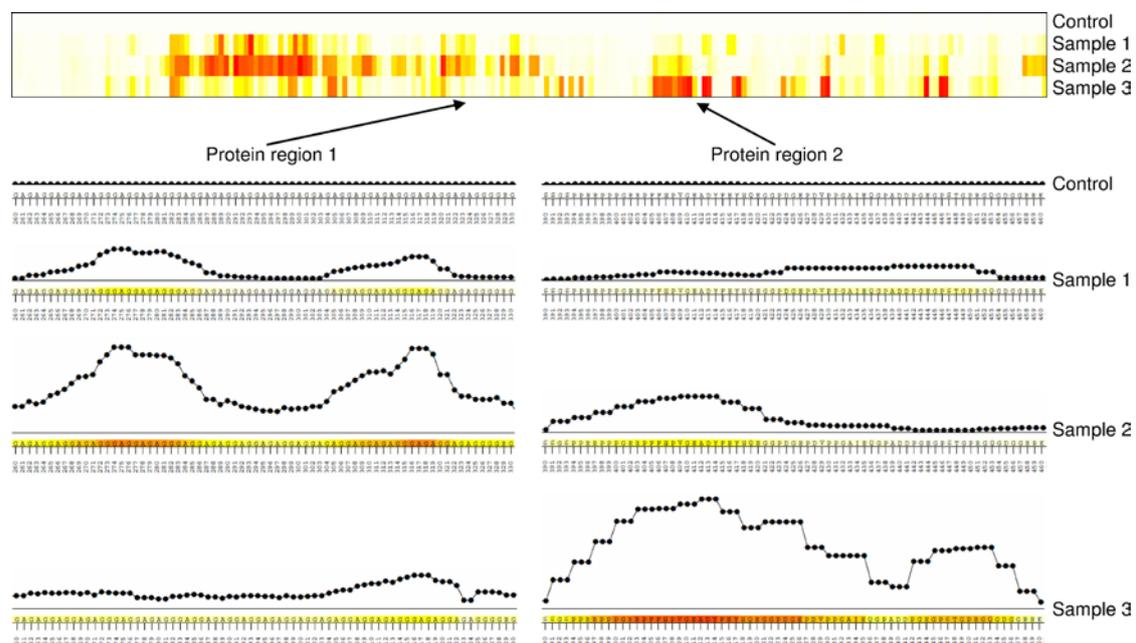

Figure 6: Visualization of microarray incubation experiment.
4. Create heatmap or bar-plot diagram for visualization and identification of major binding sites (examples see Figure 6). Generate amino acid specific plots to identify key residues responsible for kinase interaction.